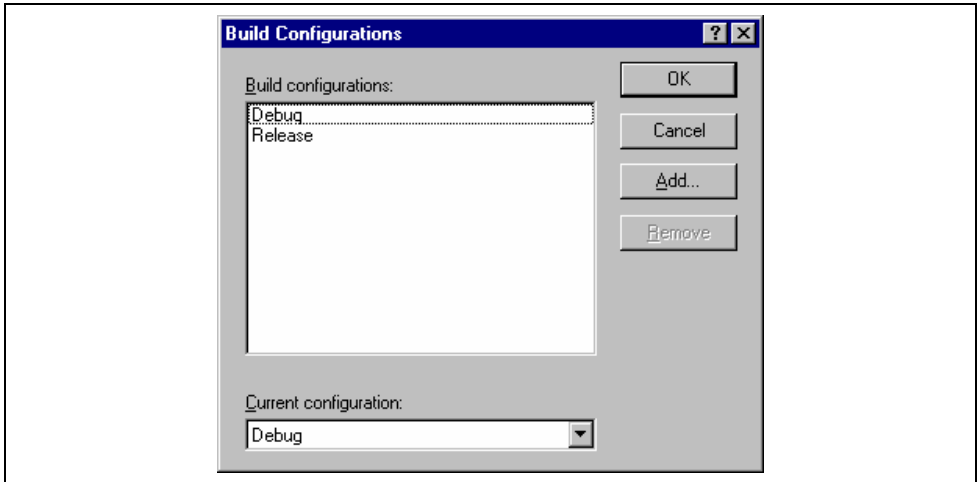

Figure 2.16: Build Configurations Dialog
1. Select [**Options->Build Configurations...**]. This will invoke the “Build Configurations” Dialog (figure 2.16).
1. Select [**Options->Build Configurations...**] to display the “Build Configurations” dialog (figure 2.16).